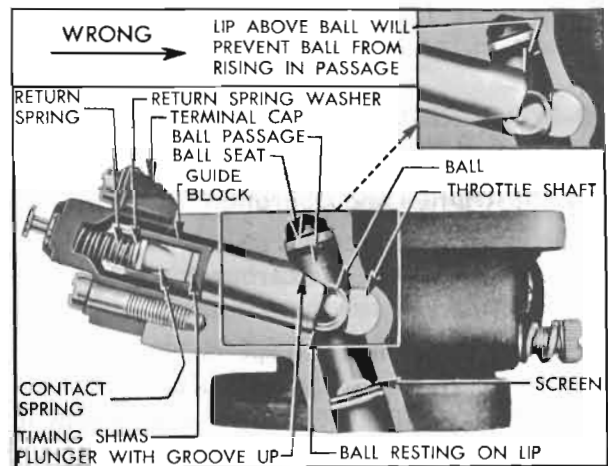

Figure 10-26—Assembly of Carburetor Starter Switch
1. Disconnect wires from terminals. Hold down on switch terminal cap while removing hold down clip. Remove terminal cap and return spring, then lift out switch guide block with contact spring and shims. Do not lose timing shims and the spring washer on contact spring. See figure 10-26.
9. Place plunger in position with the groove up so that the ball rests on lip at inner end of plunger. See figure 10-26. If the plunger is installed with groove down, the ball will be prevented from rising into the ball passage when the engine starts. As a result, the switch will close each time the throttle is opened, causing gear clash at low speeds when the generator is not producing sufficient voltage to open the solenoid relay. If generator should be inoperative, gear clashing would occur at all speeds.
10. Make sure that all timing washers, contact spring, and the return spring washer are in proper position before installing the return spring and terminal cap. Make sure that terminal cap is properly seated. See figure 10-26.